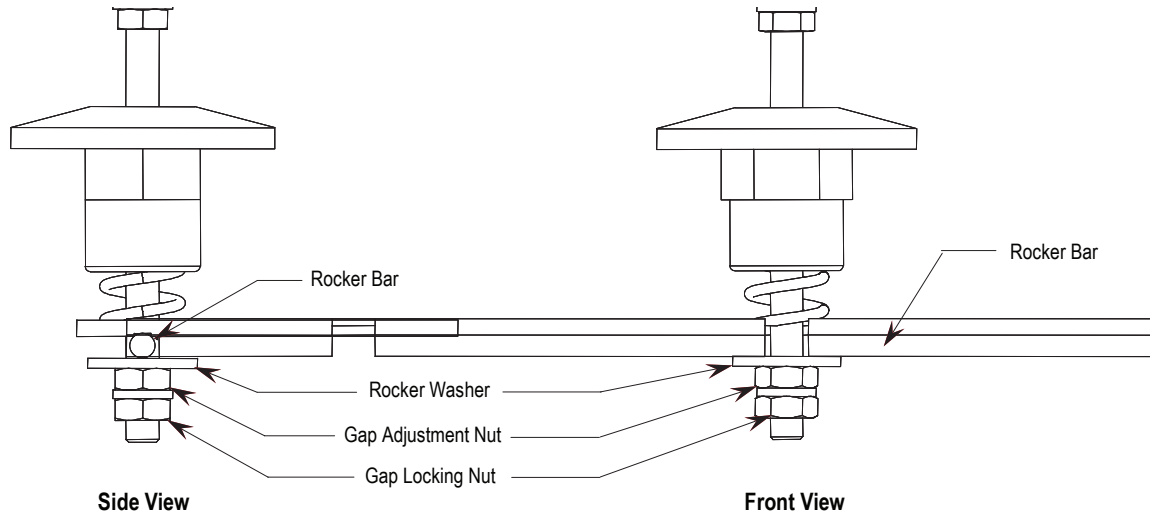

**Figure 4.8 – Insulator/Actuator Plate Set-up**
10. With the armature plate held tightly against the 3/16" rod, turn the insulator as required such that the bottom of the overtravel spring touches the surface of the actuator plate inside the counter bore. The spring must be held securely in place, slightly compressed (as shown in Figure 4.8). Tighten the load terminal nut.